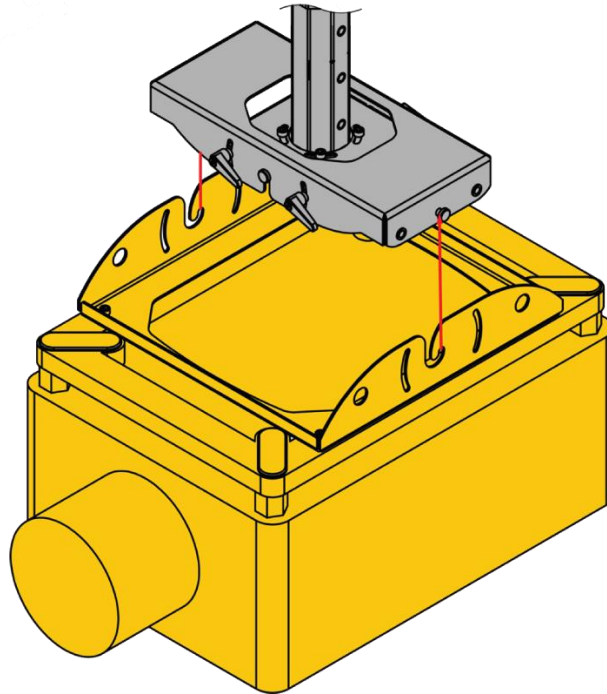

Figure 92: Step 11
Step 11: Attach the projector plate ⑥ and projector to the middle plate ⑤, as shown in **Figure 92**.